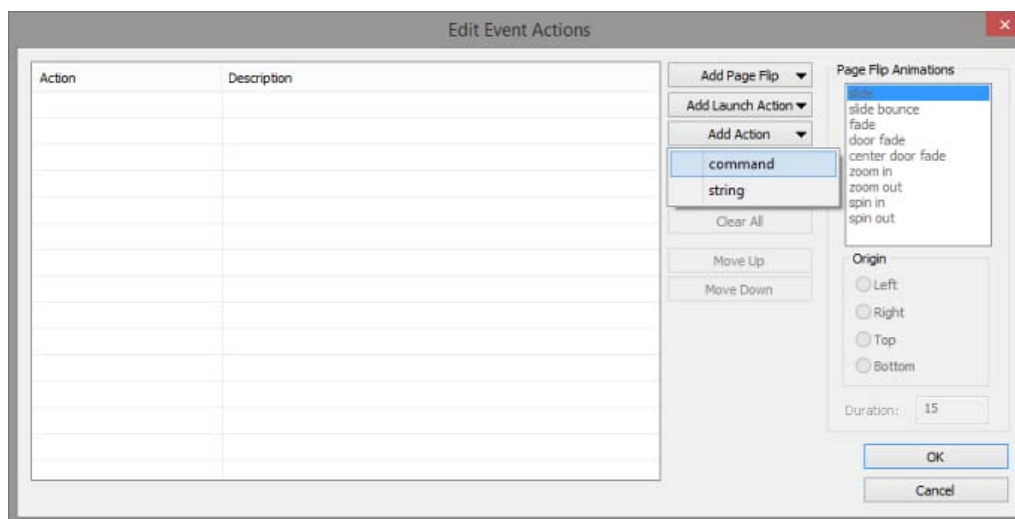

FIG. 386 Edit Event Actions dialog - Add Action drop-down menu
- Click **Add Action** and select *command* from the drop-down menu (FIG. 386):